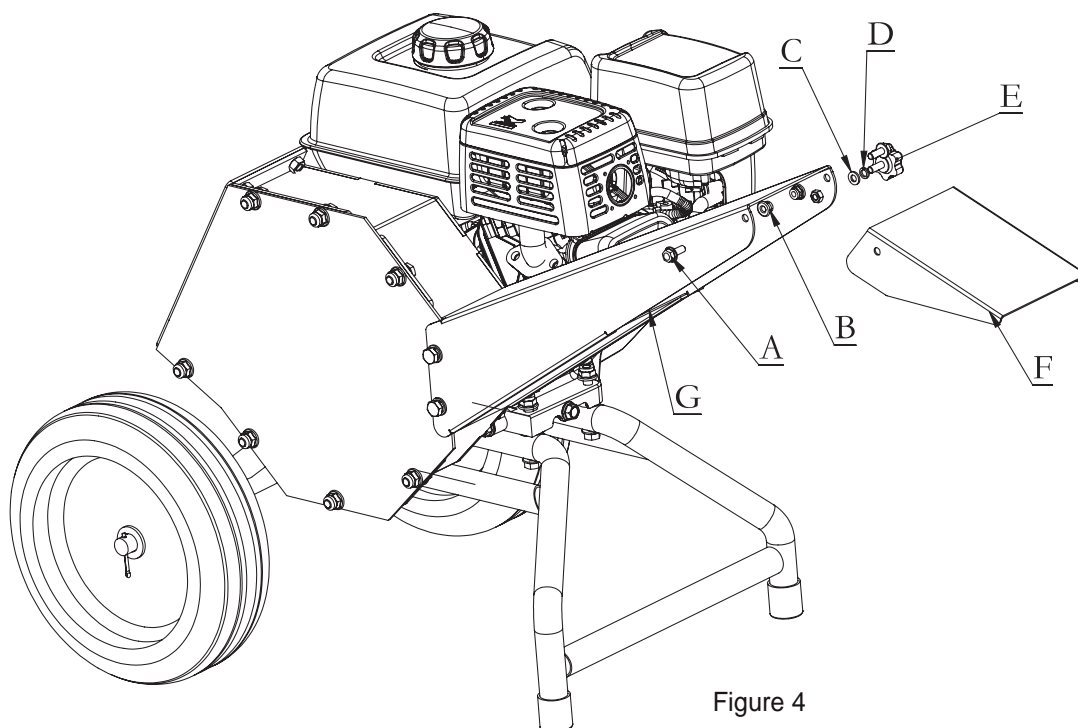

Figure 4
4. Fixed the discharge chute guide (See Figure 4)